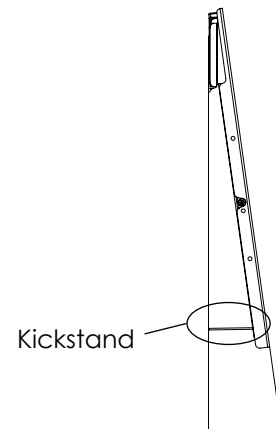

Figure 7
- a. Installed in the bottom of the arms are Kickstands that allow the bottom of TV to be temporarily positioned away from the wall, hands free, to locate and plug in cables and power cord (Figure 7).